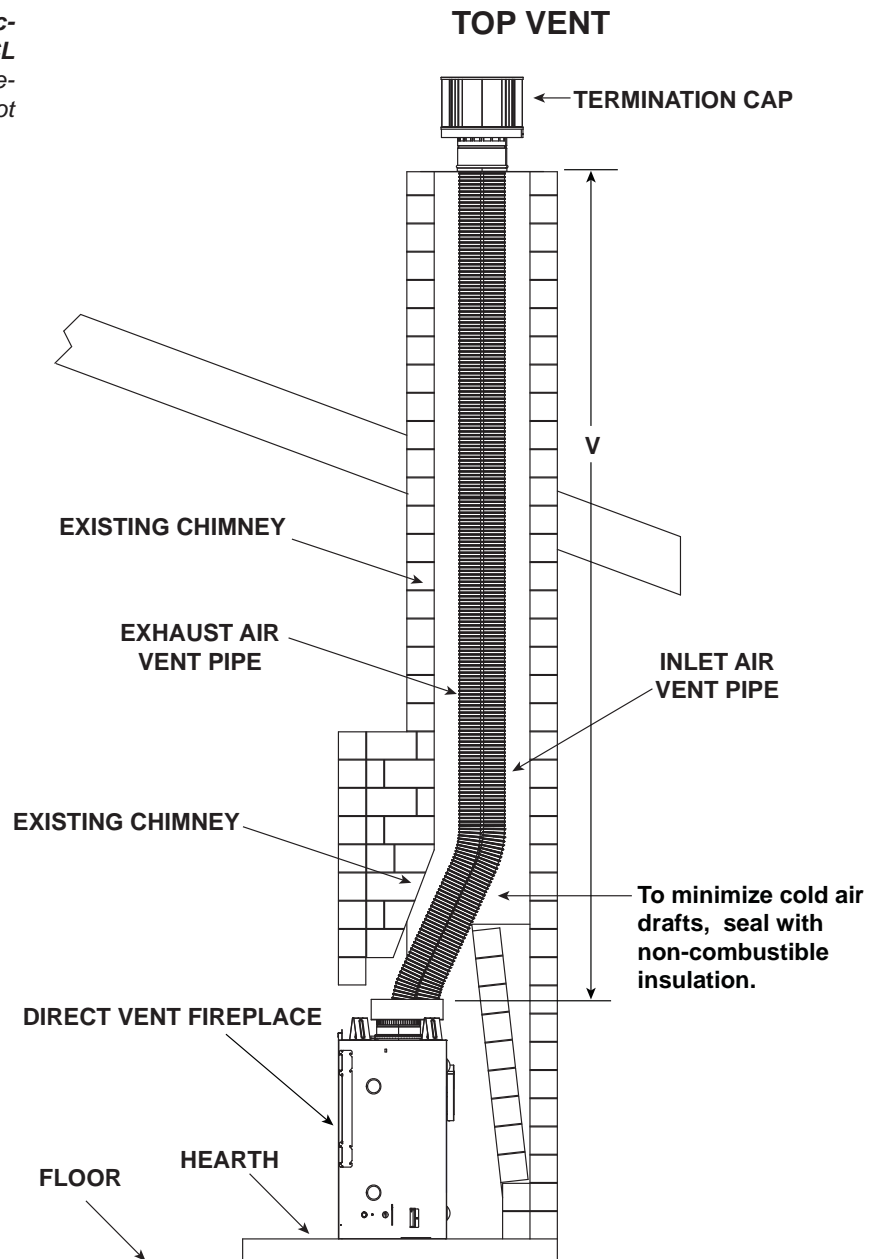

Figure 7.16
- Remove top seal cap and insulation if equipped. See Section 14, "Appliance Setup." Attach the DV-46DVA-GCL adapter to the appliance starting collar with 3-1/2 in. self-tapping screws. See Figure 7.16.